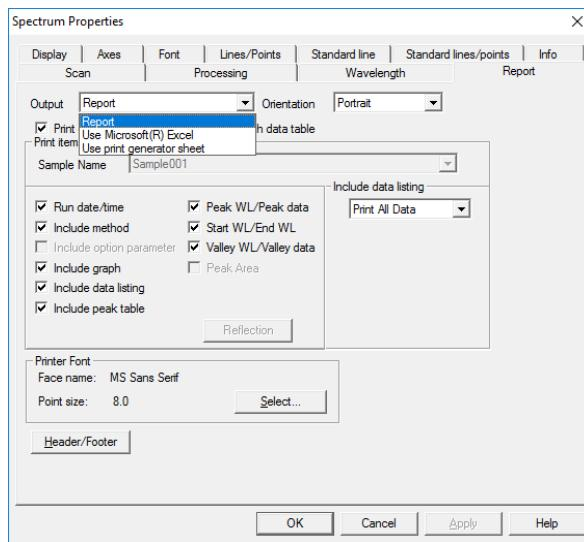

Fig. 5-40
- (1) Click the  (Properties) button and select the Report tab. A tab page as shown in Fig. 5-40 will appear. Select “Use Microsoft Excel” for Output. Also select data to be transferred (peak table, data listing, etc. in wavelength scan mode). Then click the **OK** button.